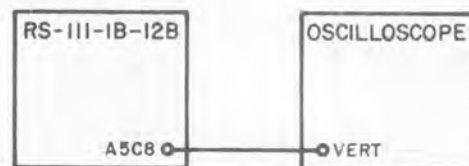

Figure 4-40. Test Setup, Sweep Oscillator and Marker Alignment
- (1) Connect the equipment as shown in Figure 4-40.